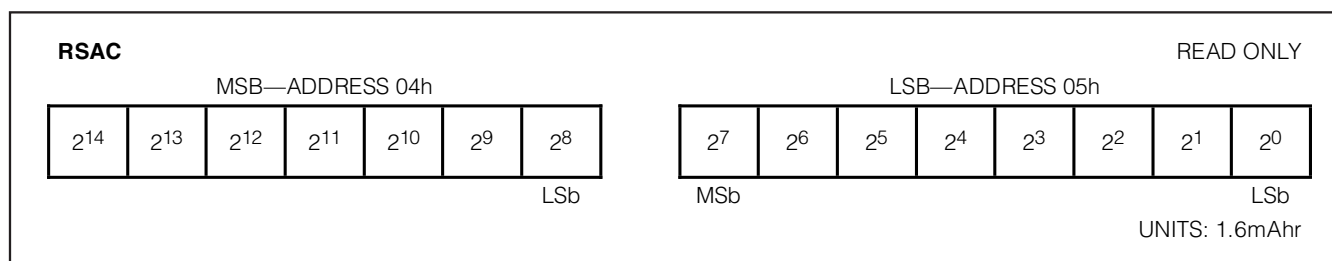

Figure 15. Remaining Standby Absolute Capacity Register Format
**Remaining Standby Absolute Capacity, RSAC [mAh]:** RSAC reports the capacity available under the current temperature conditions at the standby empty discharge rate (ISE) to the standby empty point capacity in absolute units of mAh. RSAC is 16 bits. See Figure 15.